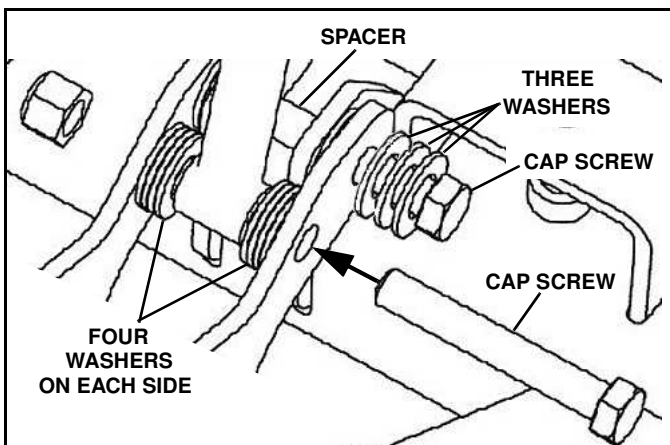

Figure 1-20
- g. Insert 3/4" x 5" cap screw and three washers (p/n 98009030) through left bracket, two washers, A-frame lug, spacer, lug, two washers and right bracket. (See Figure 1-20).
right bracket. (See Figure 1-20).